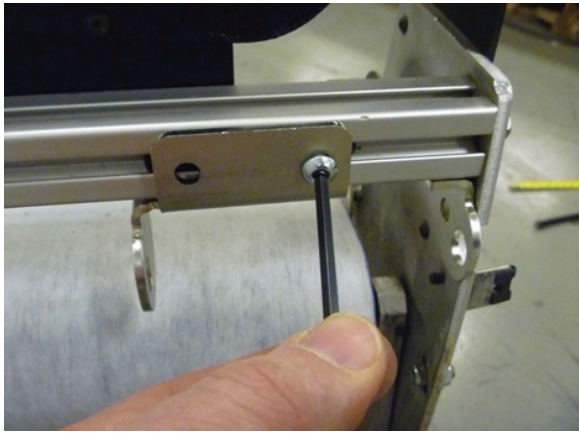

Figure 14
14. Locate the two new T-nuts and install the two new 1/4-20 x 5/8" button head cap screws as shown. Tighten all four (upper and lower) screws. Refer to *Figure 14*.